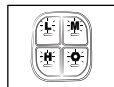

Fig. 6B
- When 4 lights flash at once it symbols either the tool or the battery failed . Please check carefully . (Fig . 6B)